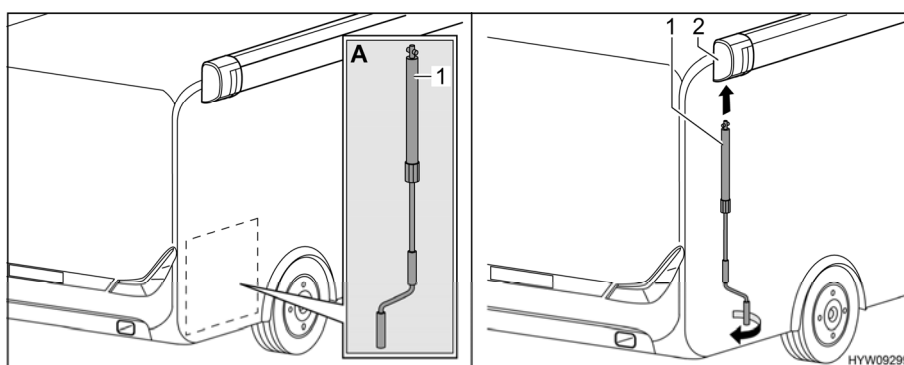

Fig. 49 Installing crank
- Take the crank (Fig. 49,1) out of the rear storage compartment (Fig. 49,A).
- Insert crank into bayonet socket (Fig. 49,2) of the awning.